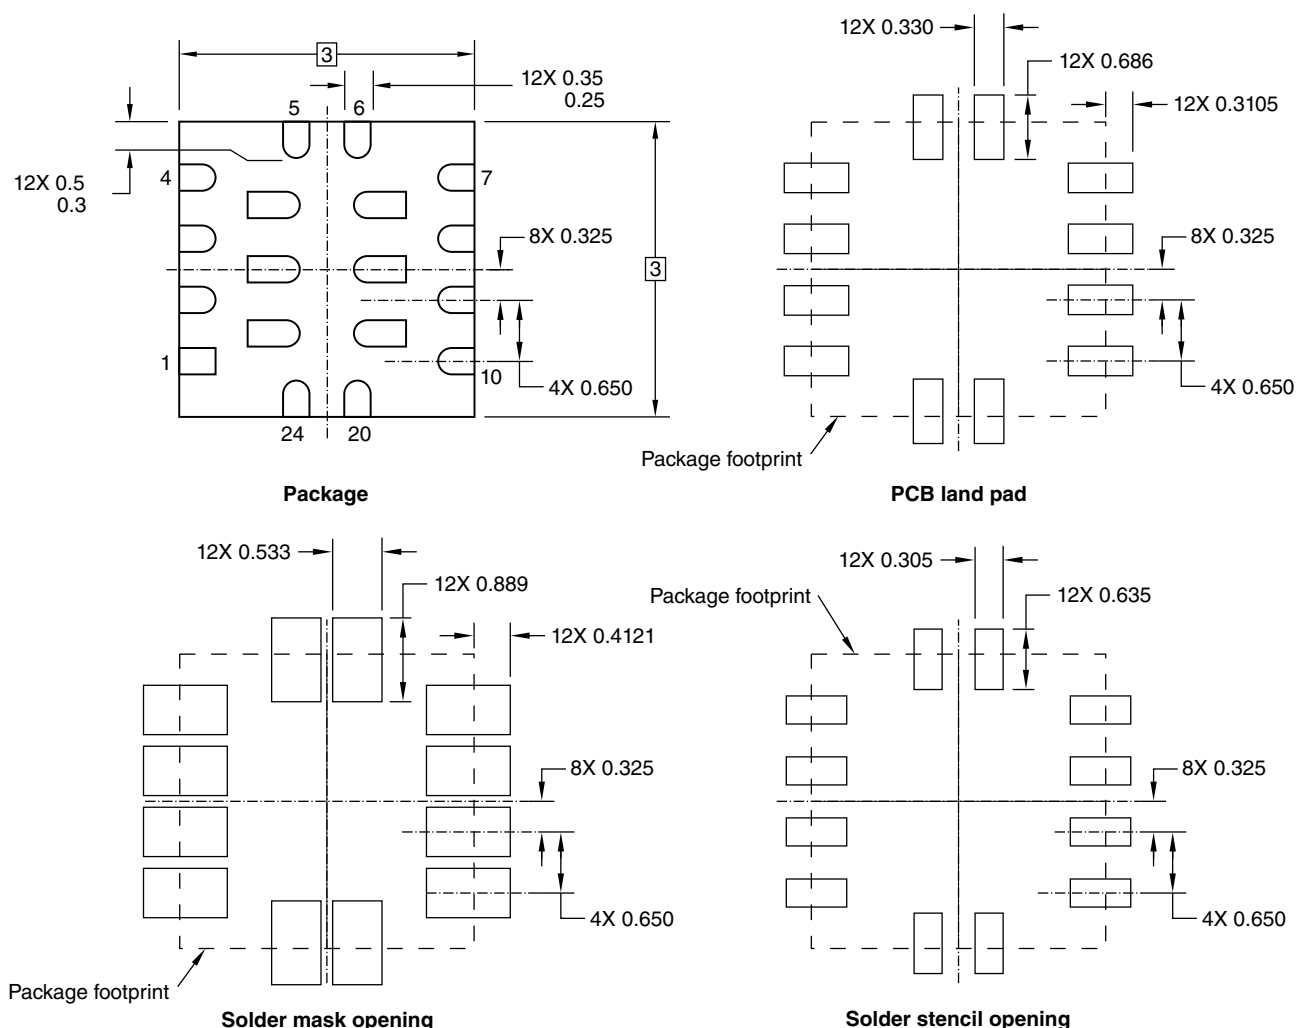

Figure 5. Footprint
The following recommendations are a guide to an effective PCB layout. See Figure 5 for footprint dimensions.
- The PCB land should be designed with Non-Solder Mask Defined (NSMD) as shown in Figure 5.